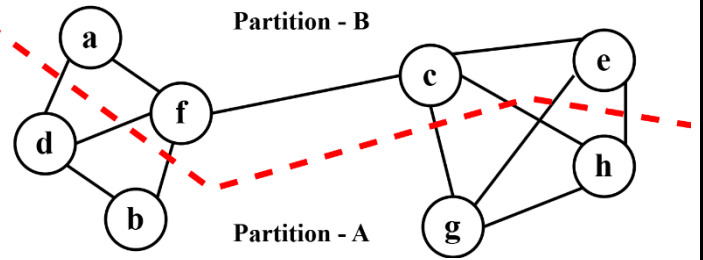

Figure 1
- 1. (CO4)** An initial cut for a partition of 8 circuit elements (**a, b, c, d, e, f, g, and h**) is given in **Figure 1**.